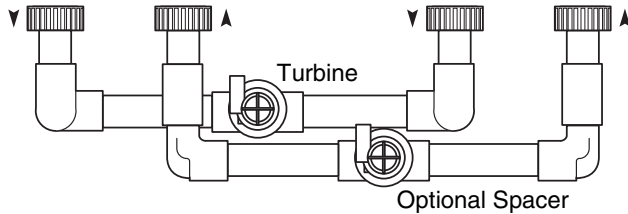

Figure 6 - Manifold Connection
The Performa Cv Twin System is available with or without an interconnecting manifold. If you are using the Autotrol interconnecting manifold, follow the instructions that are supplied with the kit. If you are using the system without the Autotrol interconnecting manifold, an example of an appropriate manifold connection is shown in Figure 6.
6. Carefully rotate the tank 1 camshaft, followed by the tank 2 camshaft, COUNTERCLOCKWISE until the indicator on the regeneration cycle indicator points directly to the center of the **Refill** position. Hold there until the air checks (Figure 6) fill with water and water flows through the brine line into the brine tank. Do not refill for more than two minutes.